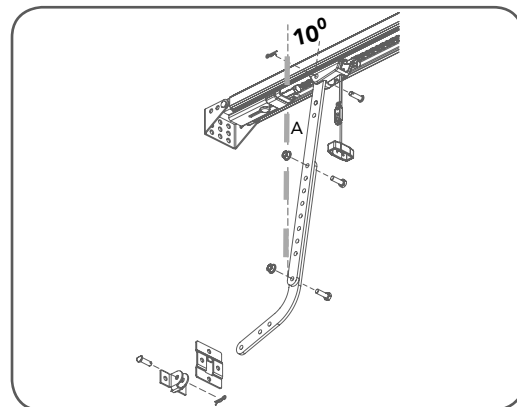

fig 20
- Connect the assembled arm to the bracket and the disengaged trolley with clevis and snap pins. The angle "A" must be more than 10° (**Fig. 20**).